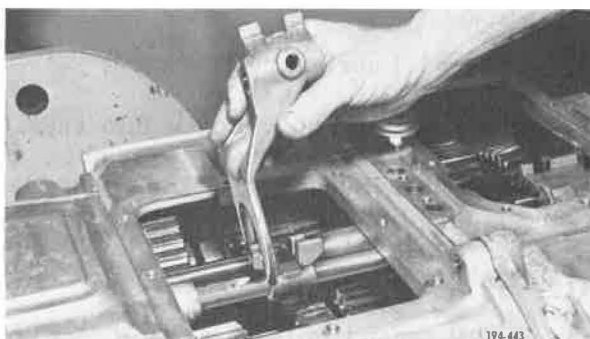

Figure 5-542. Installing Shift Fork
15. Install fourth/fifth speed shift fork onto fourth/fifth speed sliding clutch. See Figure 5-542.